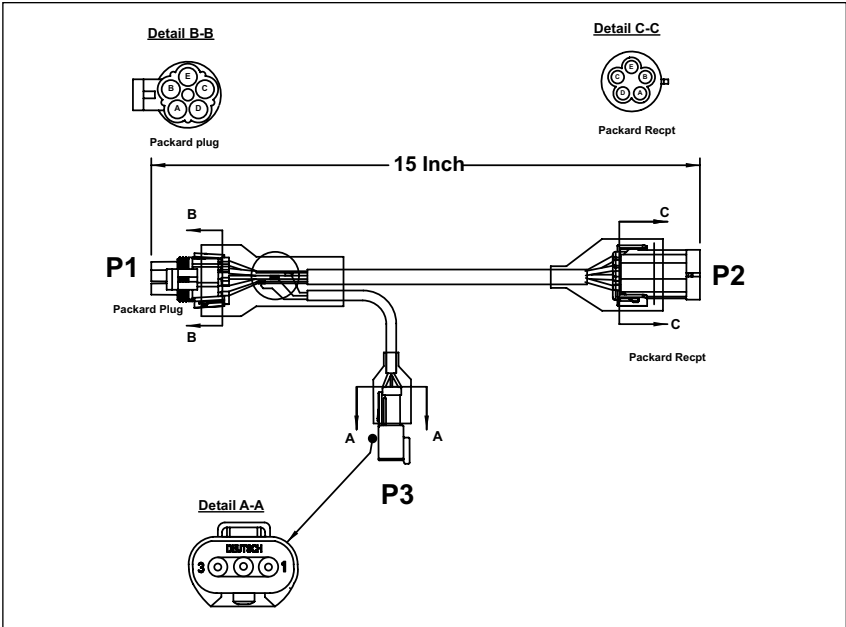
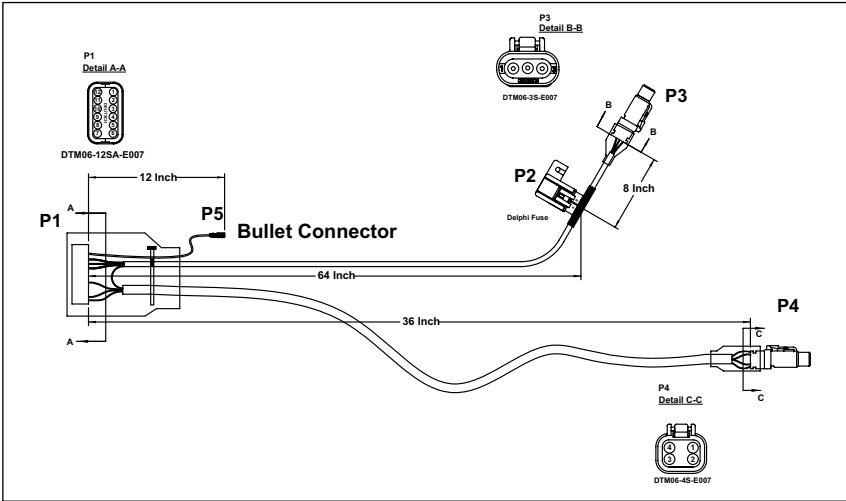

Figure 16 - SmartTire Trailer-Link™ TPMS ABS Power Splice Part No: K075867
Figure 17 - 6ft SmartTire Trailer-Link TPMS Harness Part No: K075868
Step 6. After installing the ABS Power Splice harness, connect the 3-pin power connector, P3 in Figure 16 to the SmartTire Trailer-Link™ TPMS Wiring Harness, P3 in Figure 17. Then route the harness along the underside of the trailer, taking care to avoid any slider mounts and suspension components. Secure the harness every foot with zip ties. Connect the other end of the harness, P1 in Figure 17 to the SmartTire Trailer-Link ECU.
Step 7. Route the 4-pin diagnostic LED line to the side of the trailer or slider and secure the line every foot with zip ties. Ensure the Bendix diagnostics LED Cap part number K075866 is placed over the end of the diagnostic connector, P4 in Figure 17 when not used with the Maintenance Hand tool. Connect the trailer to power and watch for the LED to light up briefly to confirm the SmarTire Trailer-Link ECU is functional. Refer to the blink code table in section C for more information.
If the optional trailer warning lamp is not installed, please use the supplied dielectric grease and fill the trailer lamp output connector (P5 in Figure 17) with grease to protect it from corrosion. For instructions on how to install the optional trailer warning lamp, continue to step 9.
Optional Step 9. Using the lamp output connector (P5 in Figure 17) a trailer lamp may also be installed at the nose of the trailer to provide trailer TPMS alerts regardless if the tractor is equipped with a SmarTire TPMS unit. Extend a power line from the connector to the lamp (standard 12-24V lamp with max one (1) Amp draw can be used, not provided by Bendix) and ground the lamp to the trailer chassis at its mounting point. Place the provided Trailer Lamp alert sticker underneath the trailer lamp. See section C for blink codes.